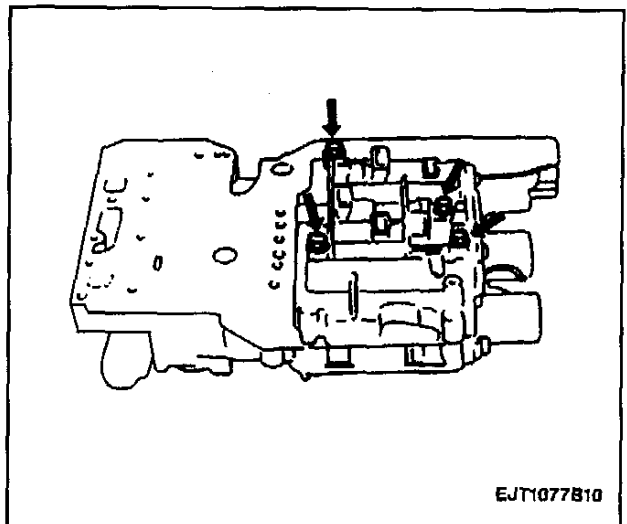

Figure 106—Upper Valve Body Bolt Location (03-72LE, 4-Speed)
5. Turn lower valve body assembly over and install four bolts to upper valve body side (Figure 106).